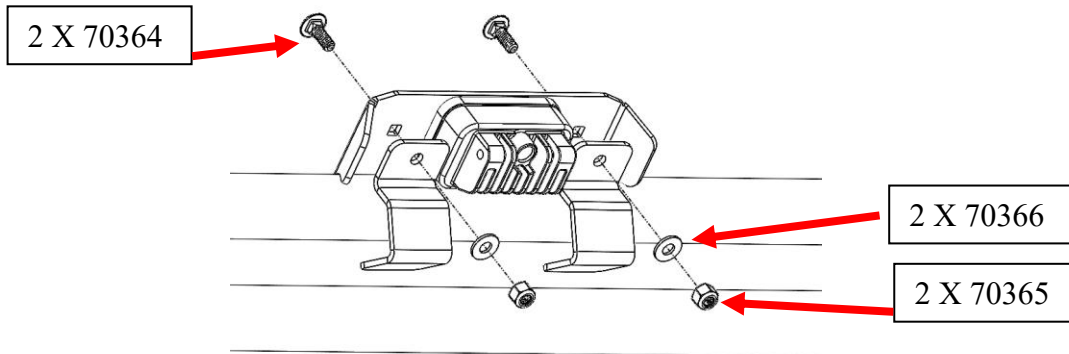

Figure 4: Installing Light Mount along Roof Rack Rail
4. Using the provided install hardware and pipe clamping brackets, secure the Light Mount to the Roof Rack rails as shown in Figure 4.